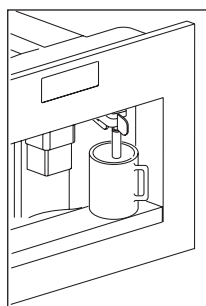

Fig. 12
- ▶ Place a container underneath the water spout (Fig. 12).